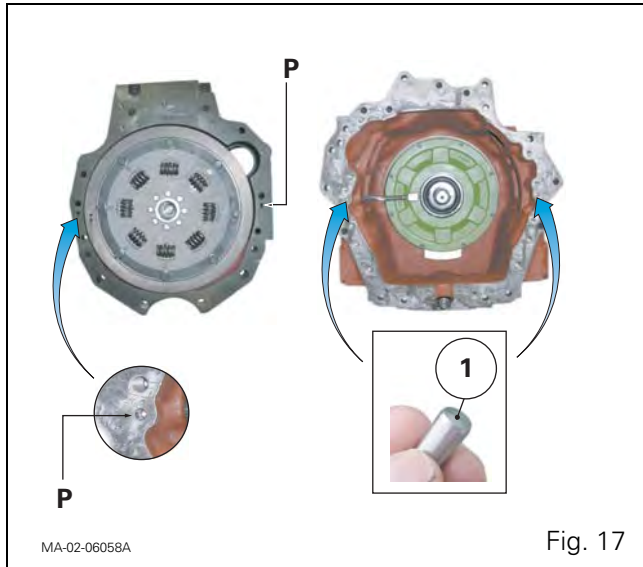

Fig. 17
26. Release the screws and the nut attaching the engine to the gearbox (Fig. 17).
Screw, nut and stud specifications (Fig. 17)
NOTE: The thread of the stud (2) (Fig. 17) in the Powershift housing is lightly smeared with Loctite 270 or equivalent.
29. Check that the dowels (1) are in the correct place on the Powershift module housing (Fig. 17).
NOTE: During assembly, the dowels fit freely into the holes (P) in the engine adapter plate (Fig. 17).
Fit the screws and the nut as marked during removal (Fig. 17). Tighten them to a torque of: